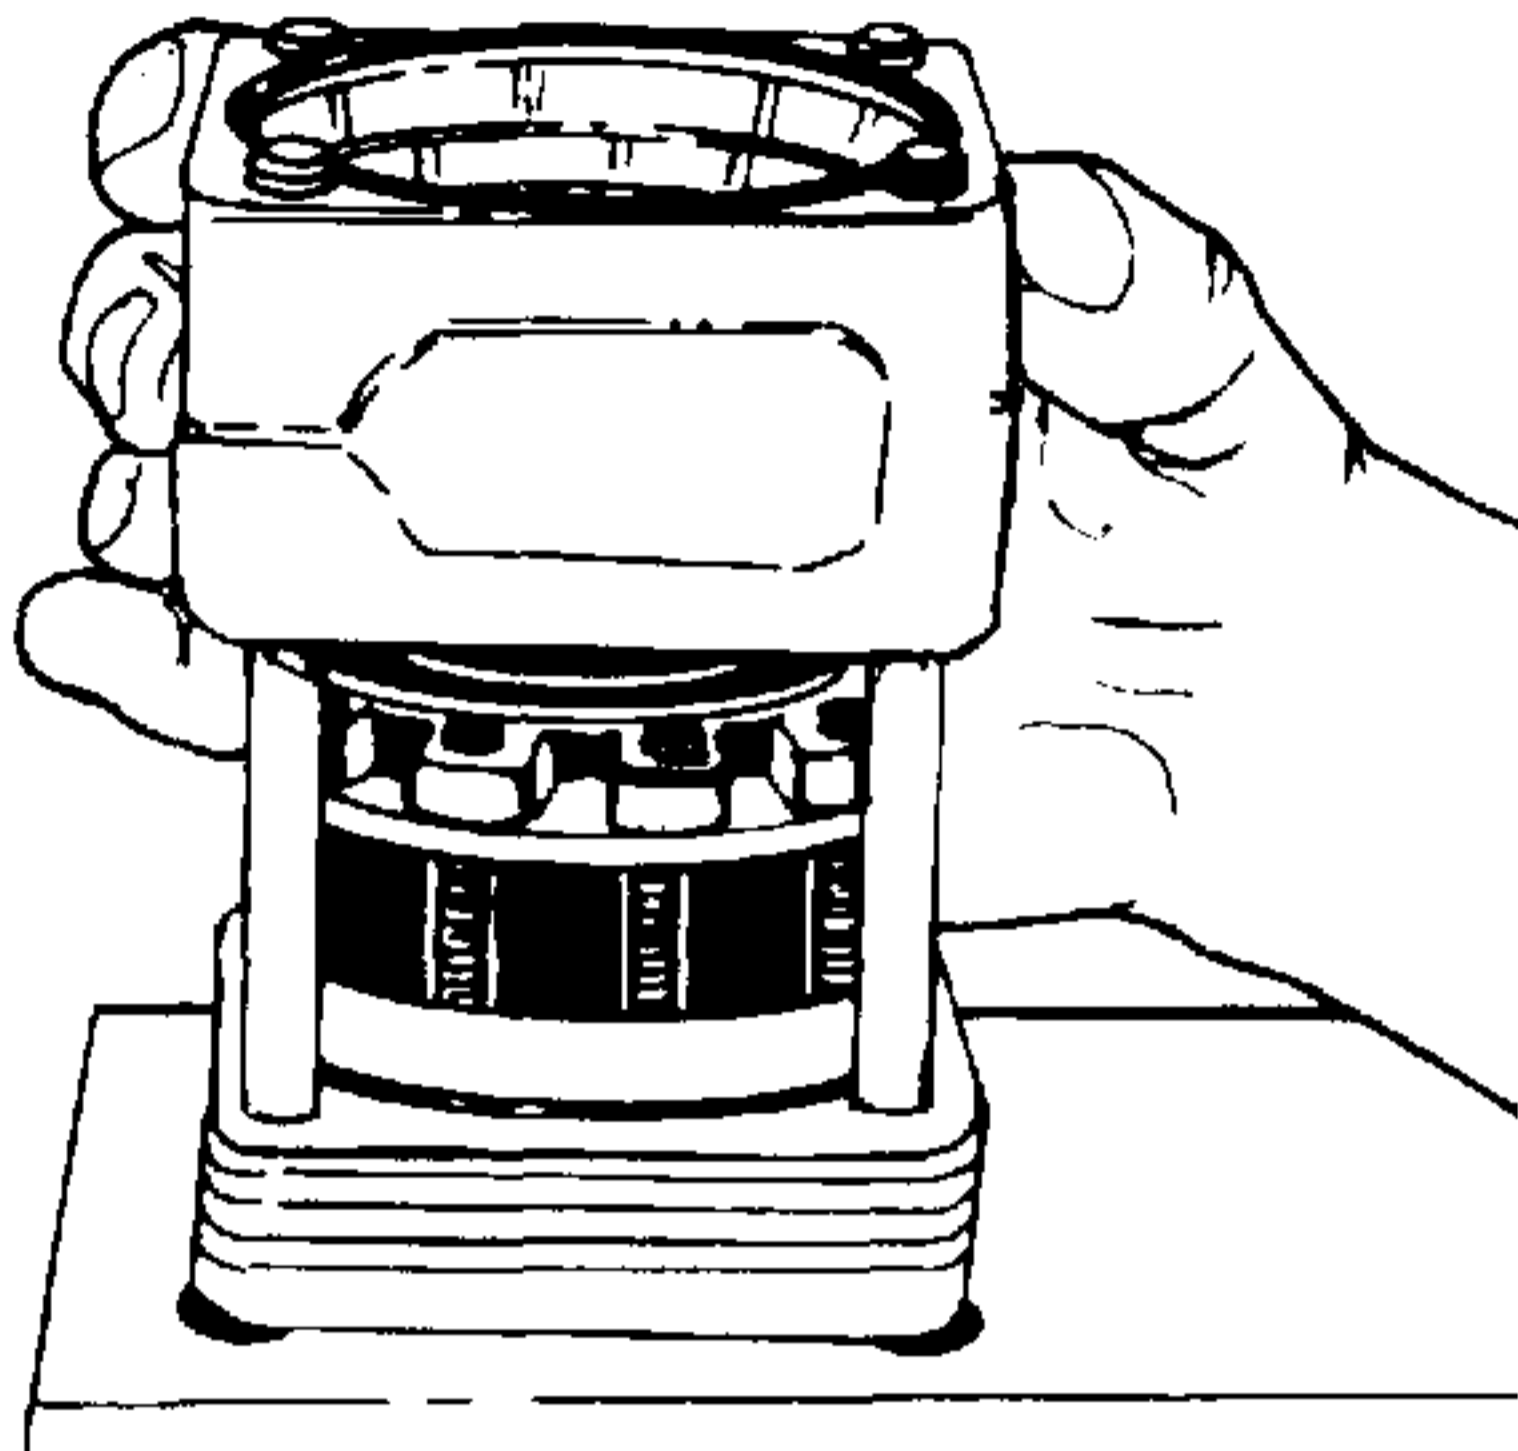

Figure 4-21. Removing Metering Ring.
23. Remove metering ring (39) and discard the two seal rings (4). See Figure 4-21. If the metering ring bore is scored, it should be replaced.